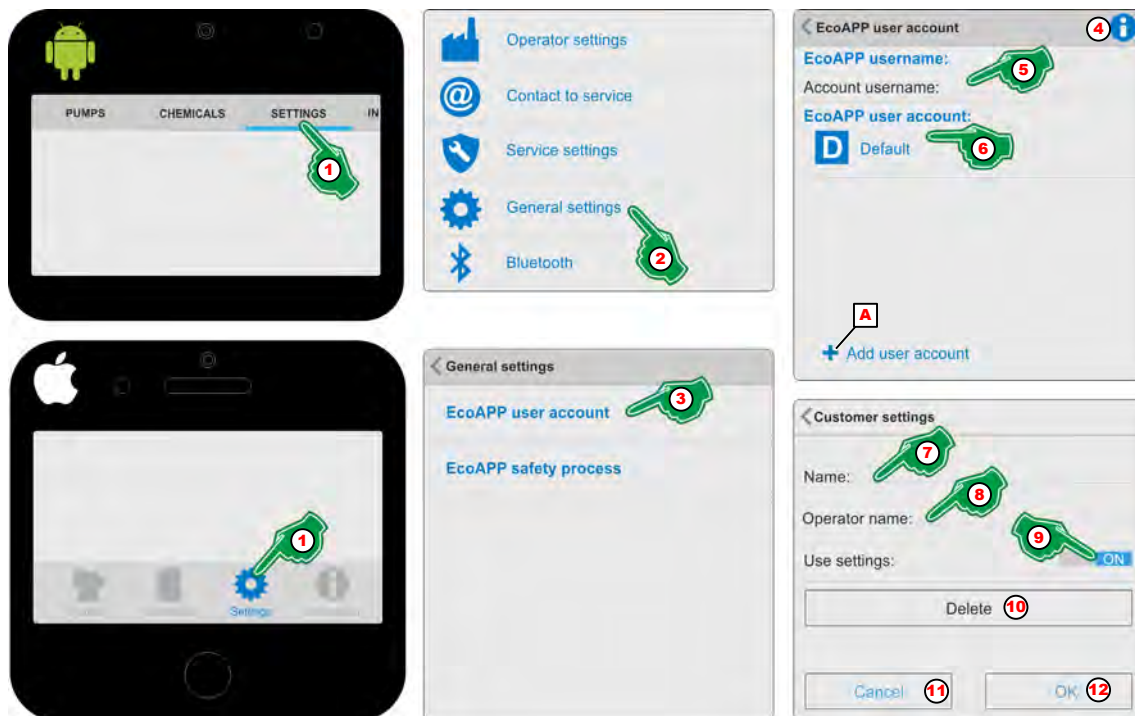

Fig. 54: Create a user account for the 'EcoAPP'
1. Select [Settings] (Fig. 54, Pos. 1).
2. Select [General settings] (Fig. 54, Pos. 2).
- [EcoAPP user account] (Fig. 54, Pos. 3)
3. Select [EcoAPP user account] (Fig. 54, Pos. 3).
4. With the selection of the [Info] Symbol (Fig. 54, Pos. 4), the display will be:
5. ▶ In the menu field for the 'User name' (Fig. 54, Pos. 5) menu field (e.g., the name of the Smartphone user).
6. ▶ In the menu field for the 'EcoAPP user account' (Fig. 54, Pos. 6) select 'user account' 'Default' .
7. ▶ Enter 'Name' (Fig. 54, 7) (for instance, metering line 1 / plant 1, etc.).
8. ▶ Input the 'Operator name' (Fig. 54, Pos. 8).
9. ▶ [ON / OFF] Switch (Fig. 54, Pos. 9) to **ON** if the setting is to be used.
If you want to add another user account, press the key '+ Add user account' (Fig. 54, Pos. A) can be used.
11. ▶ Press the [OK] button (Fig. 54, Pos. 12) to save the settings.
12. ▶ Press the [Cancel] button (Fig. 54, Pos. 11) to cancel the settings.